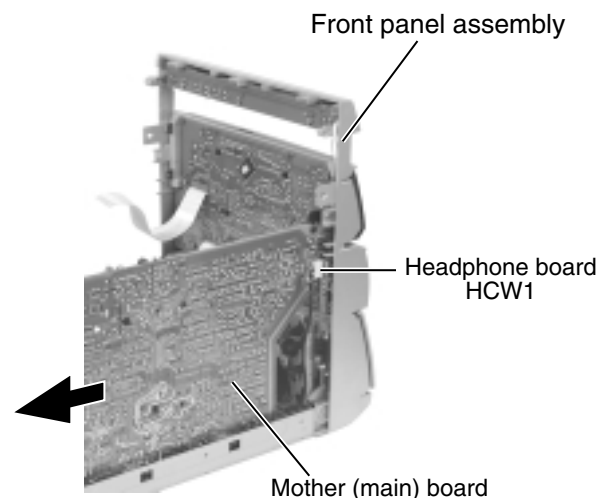

Fig.15
■ Removing the mother(main) board (See Fig.15 and 16)